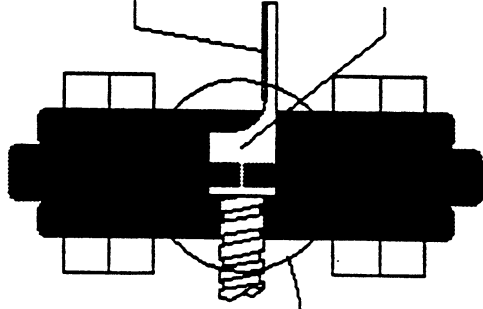

Fig. 6
- 2) Be sure only 1/16" of the fitting's round end extends beyond the P-groove or 1/8 groove. The fitting must be oriented in the NICOPRESS TOOL as shown in Figure 6 to prevent the Amp Fitting's seam from breaking open.